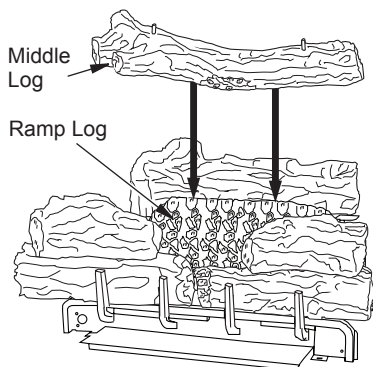

Figure 34 - Installing Middle Log
7. Place the middle log onto the ramp log as shown in Figure 34. The middle log has two tabs on the bottom to position from left to right on the ramp log. The front of the middle log should be touching the top left front log and top right front logs.